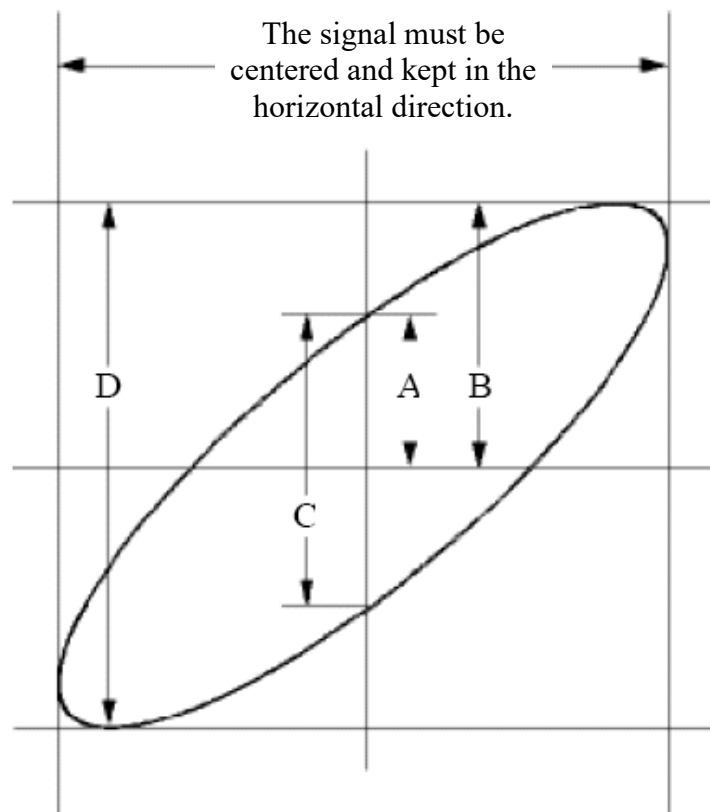

Figure 7-6 Lissajous Graph
- (7) Turn the **VOLTS/DIV** and **VERTICAL POSITION** rotary controls, optimizing the waveform.
- (8) With the elliptical oscillogram method adopted, observe and calculate the phase difference (see *Figure 7-6*).